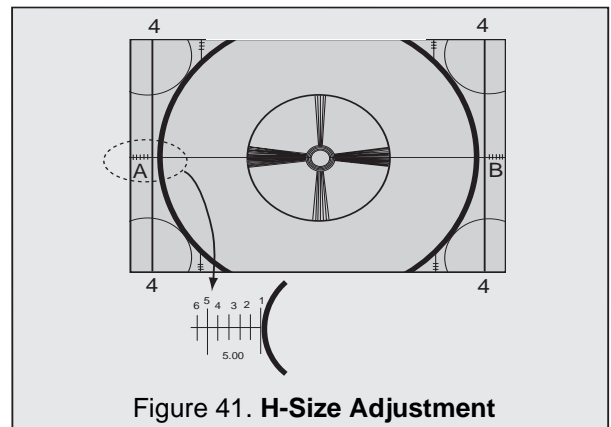

Figure 41. H-Size Adjustment
1. Adjust "H WID" DATA so that width "A" and "B" becomes 5.00 ± 0.40 (when using factory pattern) (See Fig. 41).